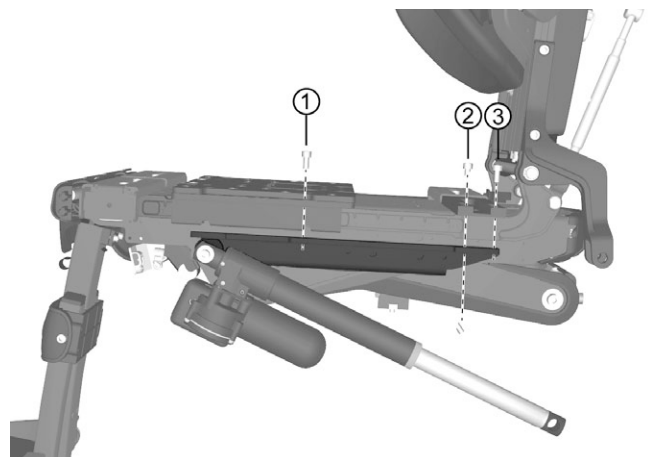

Figure 215. Remove the screws (1), (2) and (3).
8. Remove the screws (1), (2) and (3). See fig. 215. Remove the broken part of the screw (2) by screwing it upwards from underneath.